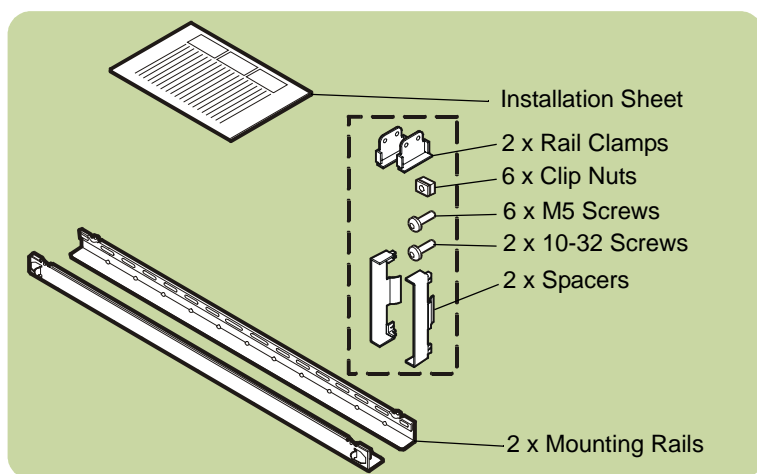

Fig. 10. HP Rack System/E Rail Kit Contents
1. Check the rail kit contents (see Fig. 10). If any parts are missing, call your nearest HP sales office.